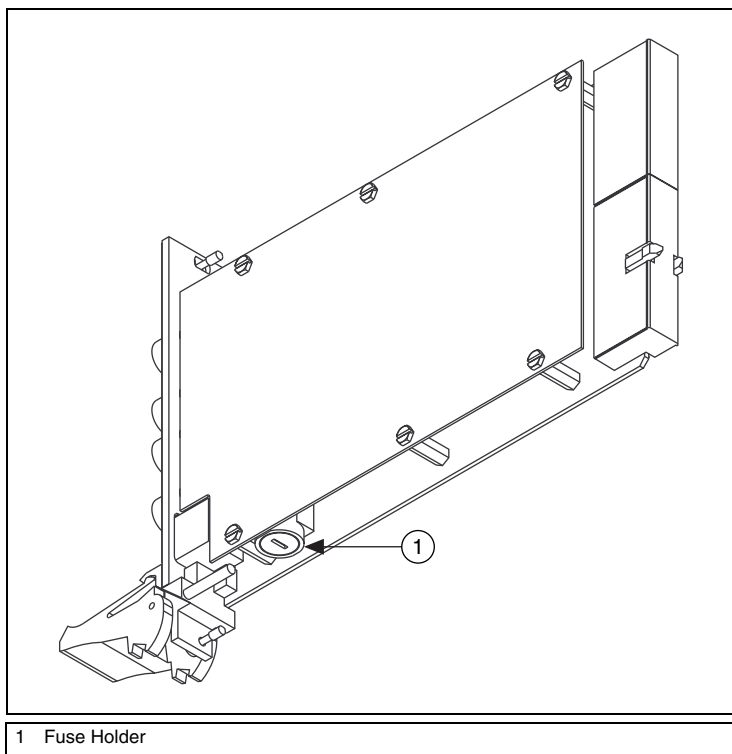

Figure 16. Removing the Fuse from the NI PXI-4060
- 3. Hold the device at the angle shown in Figure 16, and locate the fuse holder.